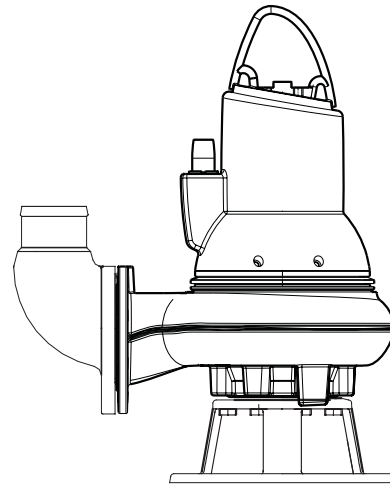

Fig. 5 Free-standing submerged pump on a ring stand
- free-standing submerged installation on ring stand, see fig. 5.
Pumps for free-standing submerged installation can stand freely on the bottom of the pit. The pump must be installed on a ring stand, see fig. 5.